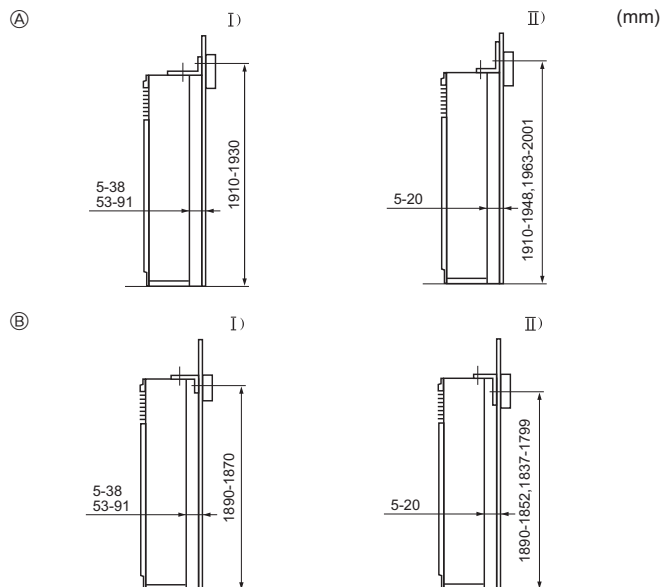

Fig. 3-3
① Tip-over prevention bracket
The tip-over prevention bracket ① is set on the top surface of the unit. Remove the tapping screws ②, and then reinstall the bracket, as shown in the illustration. For the proper installation distances, see Fig. 3-3.
- ③ Screw
- ④ Remove the screw ③ and then pull the grill forward to remove it.
3.3. Mounting the tip-over prevention bracket (Fig. 3-3)